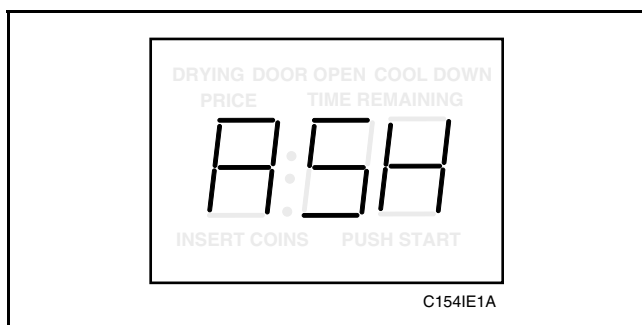

Figure 32
3. Press the LOW TEMP (+) pad or the NO HEAT (-) pad to scroll through the programmable options until “ASH” appears in the VFD, *Figure 32*.